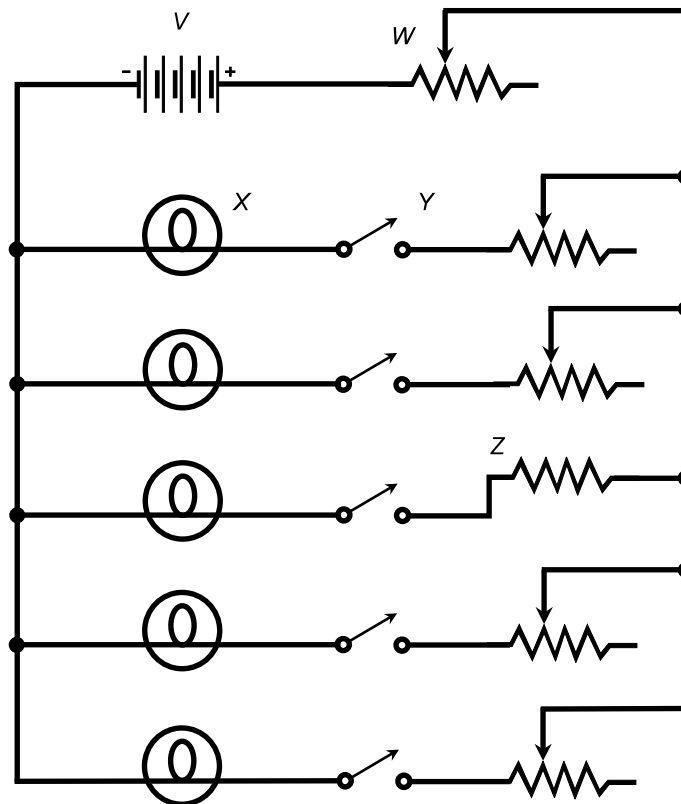

Fig. Exam-4. Illustration for Final Exam Questions 34 through 39.
34. In Fig. Exam-4, the component labeled  $V$  is
35. In Fig. Exam-4, the component labeled  $W$  is
36. In Fig. Exam-4, the component labeled  $X$  is
37. In Fig. Exam-4, the component labeled  $Y$  is
38. In Fig. Exam-4, the component labeled  $Z$  is
39. In Fig. Exam-4, the condition, setting, or value of component  $Y$  affects the condition of